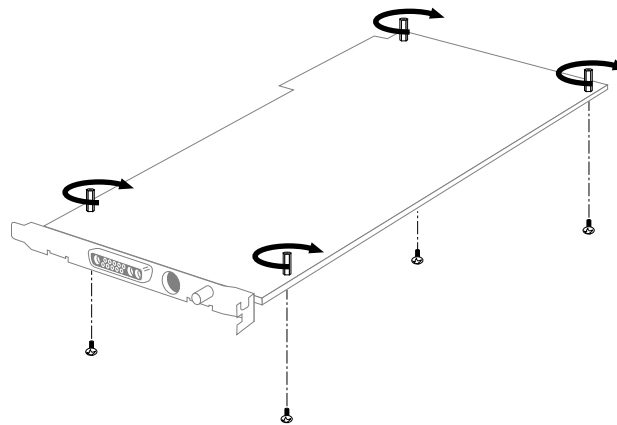

Figure 3-1 Inserting standoffs on XL
1. Locate the hole in each of the four corners of the XL graphics board. Figure 3-1 shows where the holes are located.
2. Insert a screw up through the bottom of the board in one of the four holes as shown in Figure 3-1.